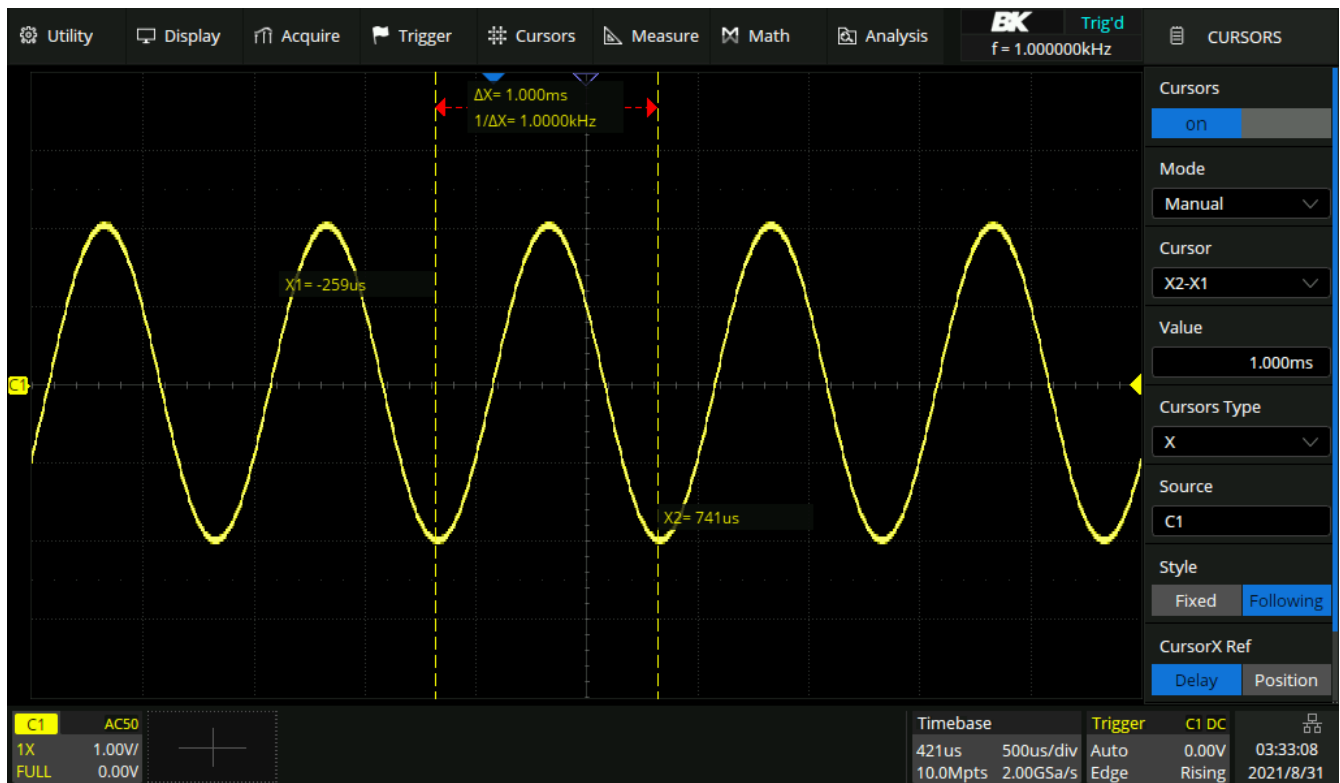

Figure 11.4 X Cursors
Use the **Universal Knob** to set the X1 and X2 cursor values. The values are displayed in the cursors box along with the difference between X1 and X2 (T) and 1/T. (See figure 11.4)